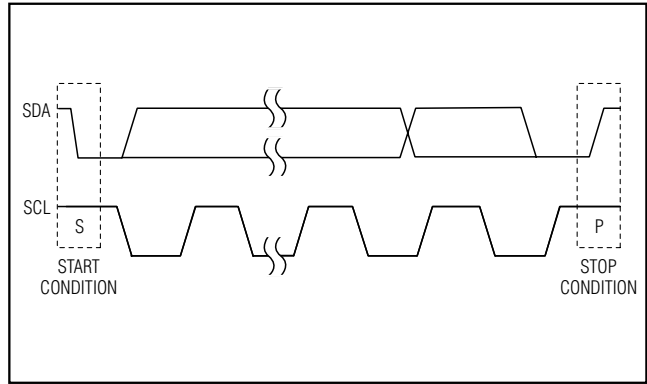
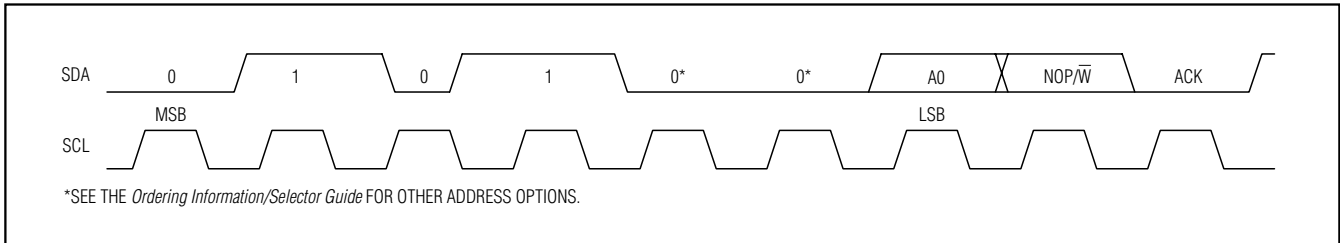
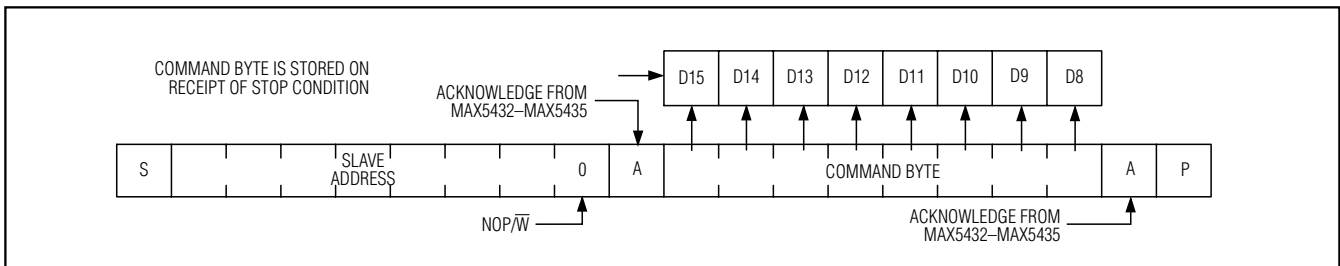

Figure 3. Start and Stop Conditions
Figure 4. Slave Address
Figure 7. Command Byte Received
Each transmission consists of a START (S) condition (Figure 3) sent by a master, followed by the MAX5432–MAX5435 7-bit slave address plus the 8th bit (Figure 4), 1 command byte (Figure 7) and 1 data byte, and finally a STOP (P) condition (Figure 3).
high while SCL is high. The bus is then free for another transmission (Figure 3).
The MAX5432-MAX5435 have a 7-bit-long slave address (Figure 4). The 8th bit following the 7-bit slave address is the NOP/ $\bar{W}$  bit. Set the NOP/ $\bar{W}$  bit low for a write command and high for a no-operation command.